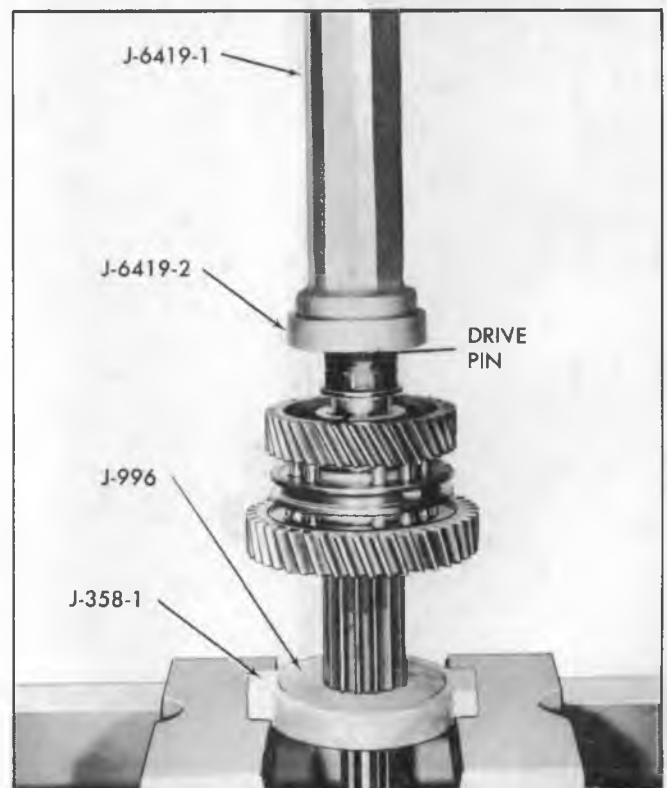

Fig. 20R--Installing 4th Speed Gear Sleeve
3. Slide second-and-third speed synchronizer on hub, with longer hub of synchronizer toward second-speed gear (fig. 20R).
5. Start fourth-speed gear sleeve on shaft with flanged end of sleeve facing third speed gear and pin in sleeve between splines of shaft. Support shaft in press plates Tool J-0996 and, using Tool J-6419-1 and -2 as shown in Figure 20R, press sleeve onto shaft until flange is tight against shoulder on shaft.